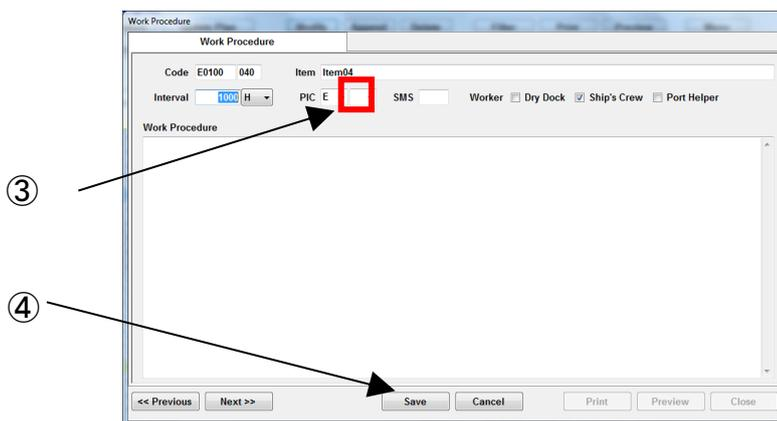

Fig.10-12 Work Procedure Screen
(2) “Work Procedure screen” (Fig.10-12) is displayed.
(3) You can modify only “number” of PIC. (Dept. Code (“D”/”E”/”R”) can not be modified)
(4) Select [Save] button. Then, select [Close] button to close dialog.